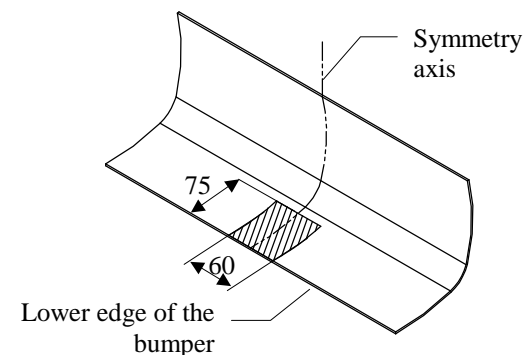

Fig. 3 Bumper cut out
8. Reassemble the bumper after cut out fragment as shown in fig. 3.
10. Fix tow-ball (pos. 2) and socket plate (pos. 3) by bolts M12x75mm (pos. 6) from accessories.